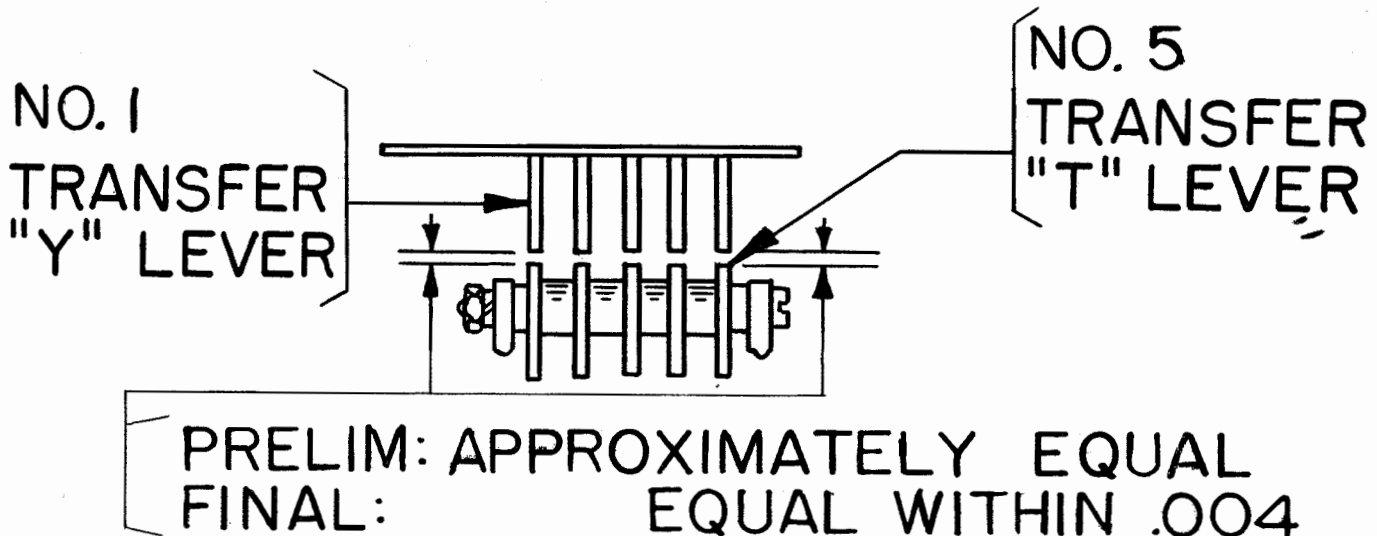

Figure 61
2.129 Transfer Bail and Slide Assembly (Preliminary Adjustment): Rotate the sensing shaft to its stop position and mount the transfer bail and slide assembly (previously removed) on the base casting. Position the assembly so that the T-levers line up centrally with the Y-levers and so that there is approximately equal distance between the T-levers and Y-levers on the No. 1 (rear) and 5 (front) sets of levers. See Figure 61.
- (b) There shall be a clearance as indicated in Figure 61 between the T-levers and the Y-levers when measured between the bottom prongs of the No. 1 (rear) and 5 (front) sets of levers.